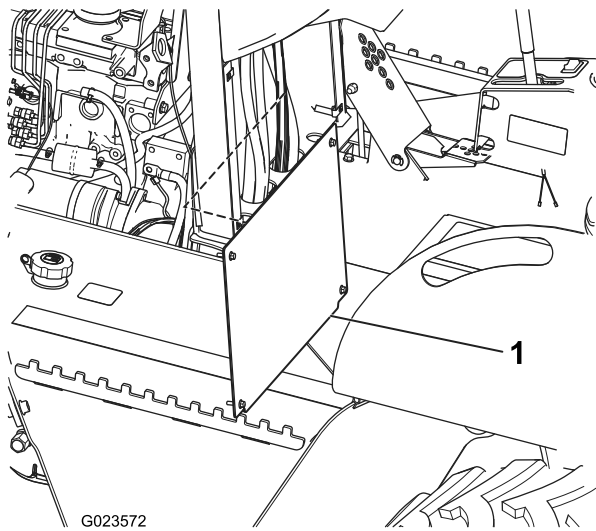

Figure 1
5. Loosen the 4 bolts securing the access panel in front of the traction unit seat, and remove the panel (Figure 1).